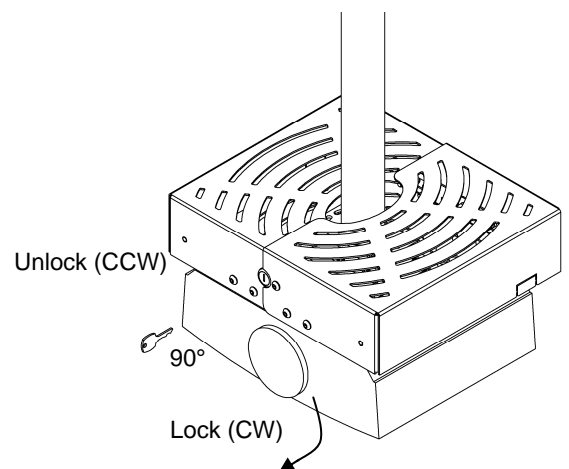

Figure 6. Lock Unit
11. Slide PL-1 halves together (see Figure 6).